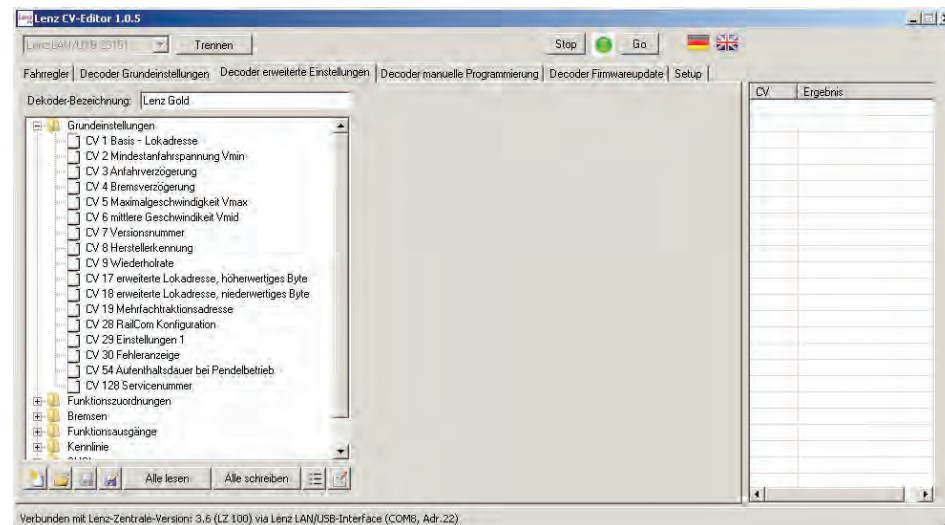

Fig. 2: Decoder templates for all Digital plus decoders as well as for Lenz 0 locomotives are included or can be downloaded on our website
- ✓ Decoder templates for all Digital plus decoders as well as for all Lenz 0 locomotives (fig. 2)